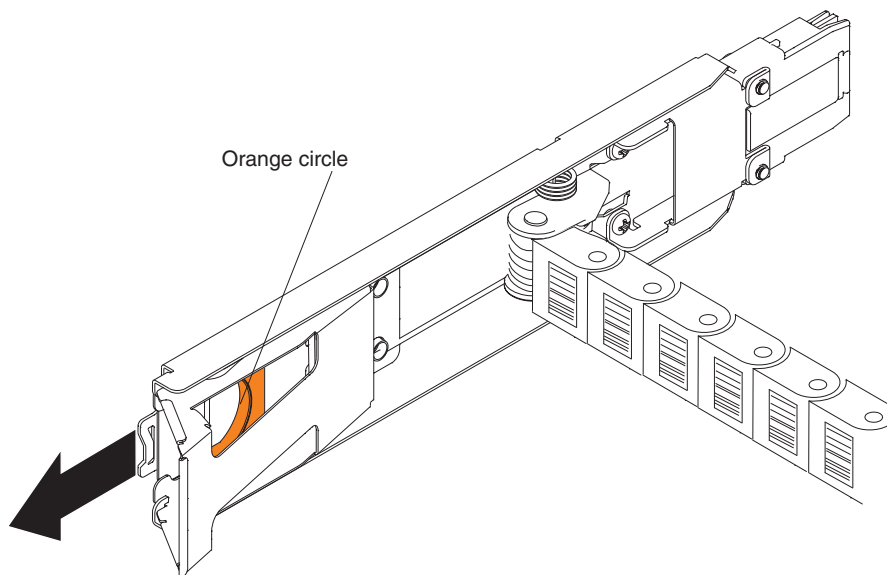

Figure 57. Vertical mounting bracket that connects to the midplane
- c. Disconnect the right cable chain mounting bracket from the midplane. Insert your finger into the orange circle (see Figure 57), and pull the mounting bracket completely out of the storage expansion enclosure. If necessary, use a flashlight to see the orange circle.